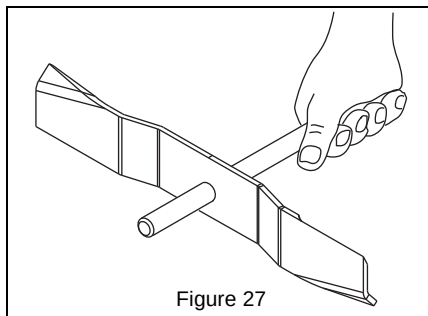

Figure 27
3. Slide an unthreaded bolt through blade center to check balance. Hold the bolt level. If blade does not remain horizontal, sharpen the heavy end until blade is balanced. See Figure 27.